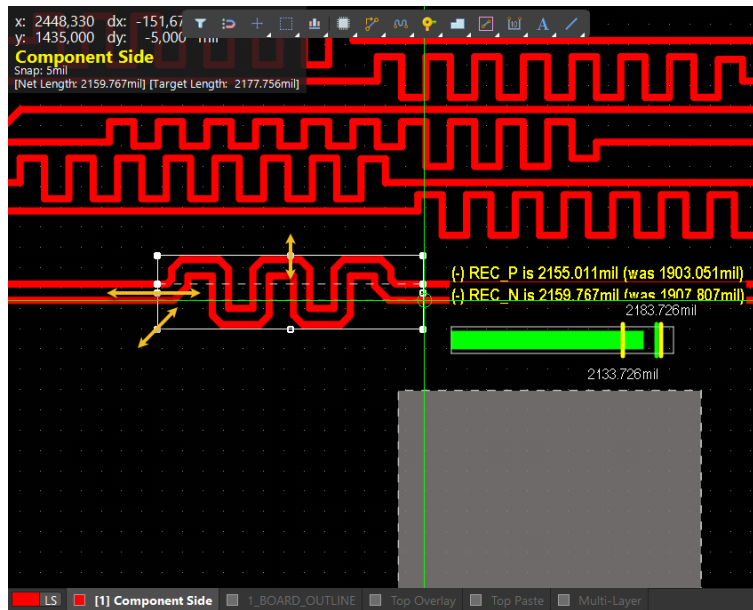

Figure 9. Modify an existing length tuning
46. Select one of the vertex points to change the size of the Sleeve, Figure 9. By moving the vertex, you change the length of the tuning. Similar to placing a length tuning, you see the length tuning gauge, giving you the information about the current length of the signals.